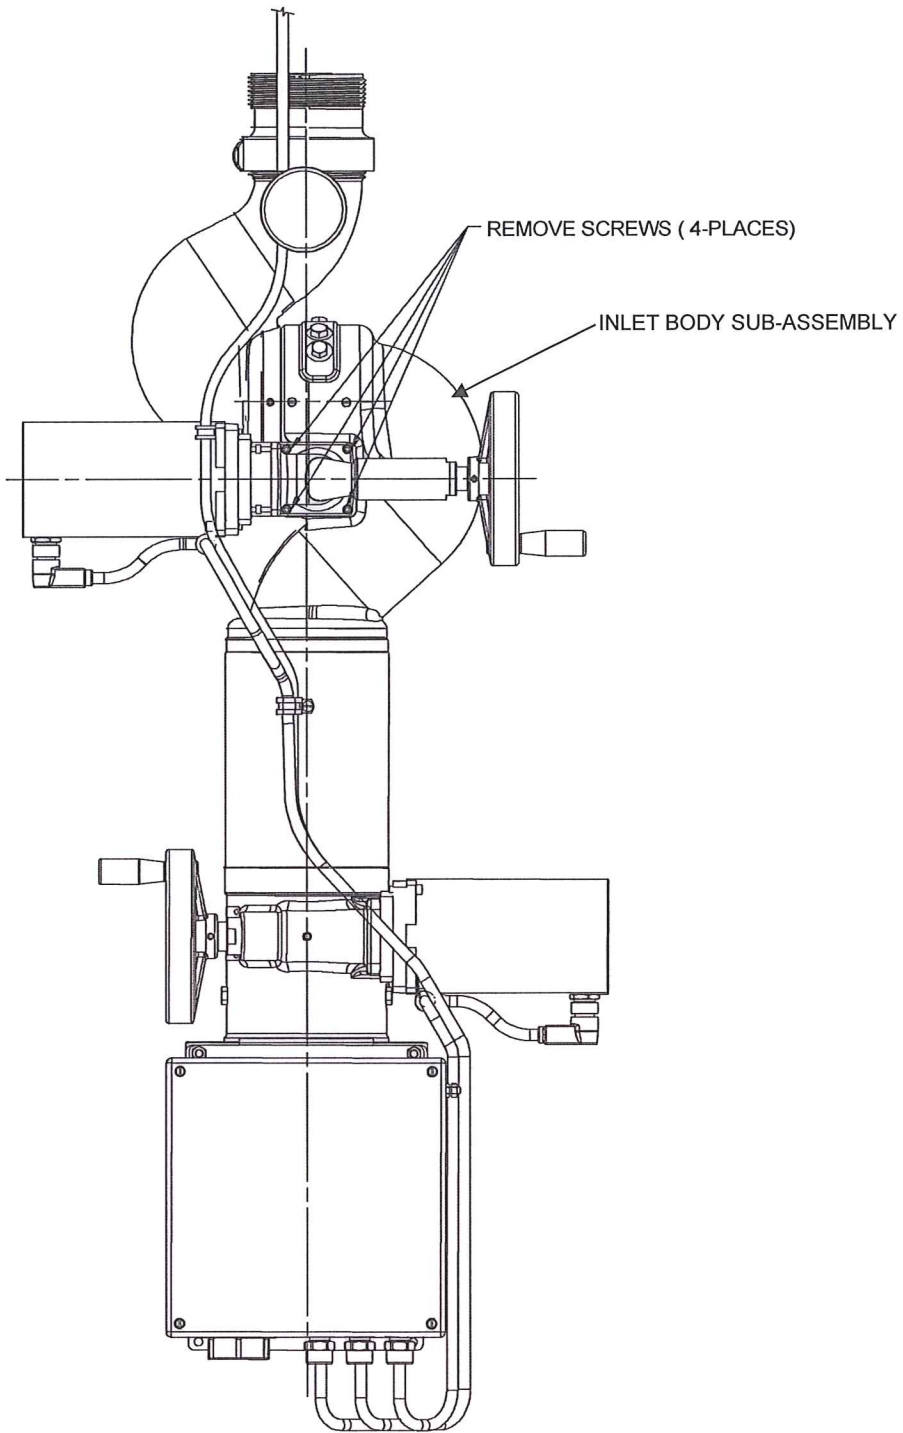

Figure 1: Location of the gear case sub-assembly mounting screws.
4. Remove motor cable connection and each of the socket head cap screws from the vertical 90° gear case sub-assembly (for 90° gear case assembly part number 81417001 [See Figure 3], use 5/32 inch hex bit; for 90° gear case assembly part number 81572001 [See Figure 4] use 3/16 inch hex bit). See Figure 1 for the location of these screws. **Warning: Be sure to secure the gear case sub-assembly before removing the last of the four screws. Personal injury may result from the gear case sub-assembly being dropped.**
4. Drill the four 10-24 threaded holes of the inlet body sub-assembly of the monitor (shown in Figure 1) 0.500 inch deep with a #7 drill bit. **Use extreme caution to avoid penetration into the waterway by not exceeding the 0.500 inch hole depth.** Use measures to prevent drill chips from entering monitor worm gear housing.